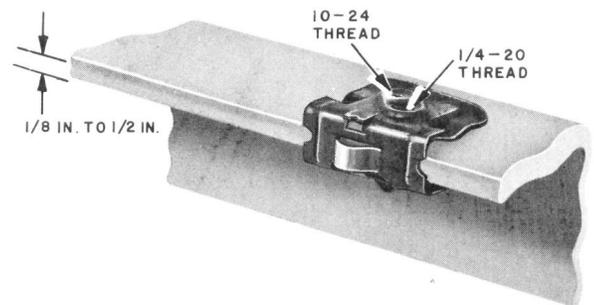

Fig. 2 — B Beam Clip, Top View
2.01 Two holes are provided on one side of the clip (Fig. 2). One hole accepts a 10-24 machine thread and the other a 1/4-20 machine thread. These accommodate B or M bridle rings or a machine threaded screw.
**3.01** To install, place open end of clip against flange of beam and tap opposite corners of the clip until it is firmly seated (Fig. 2 and 3).